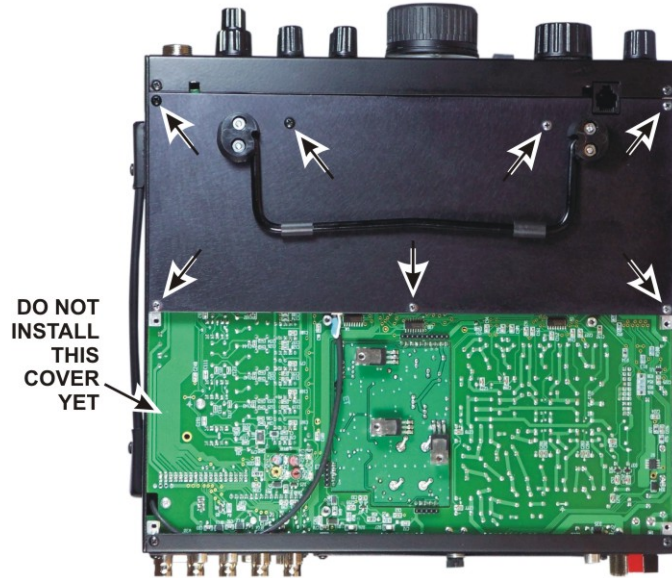

Figure 90. Installing Bottom Cover Forward Section.
□ Turn the K3 over so the bottom is exposed. Position the forward section of the bottom cover with the feet and bail toward the front as shown in Figure 90. Attach the cover with seven 3/16" (4.8 mm) black pan head screws (SS) at the positions shown. Do not use washers.